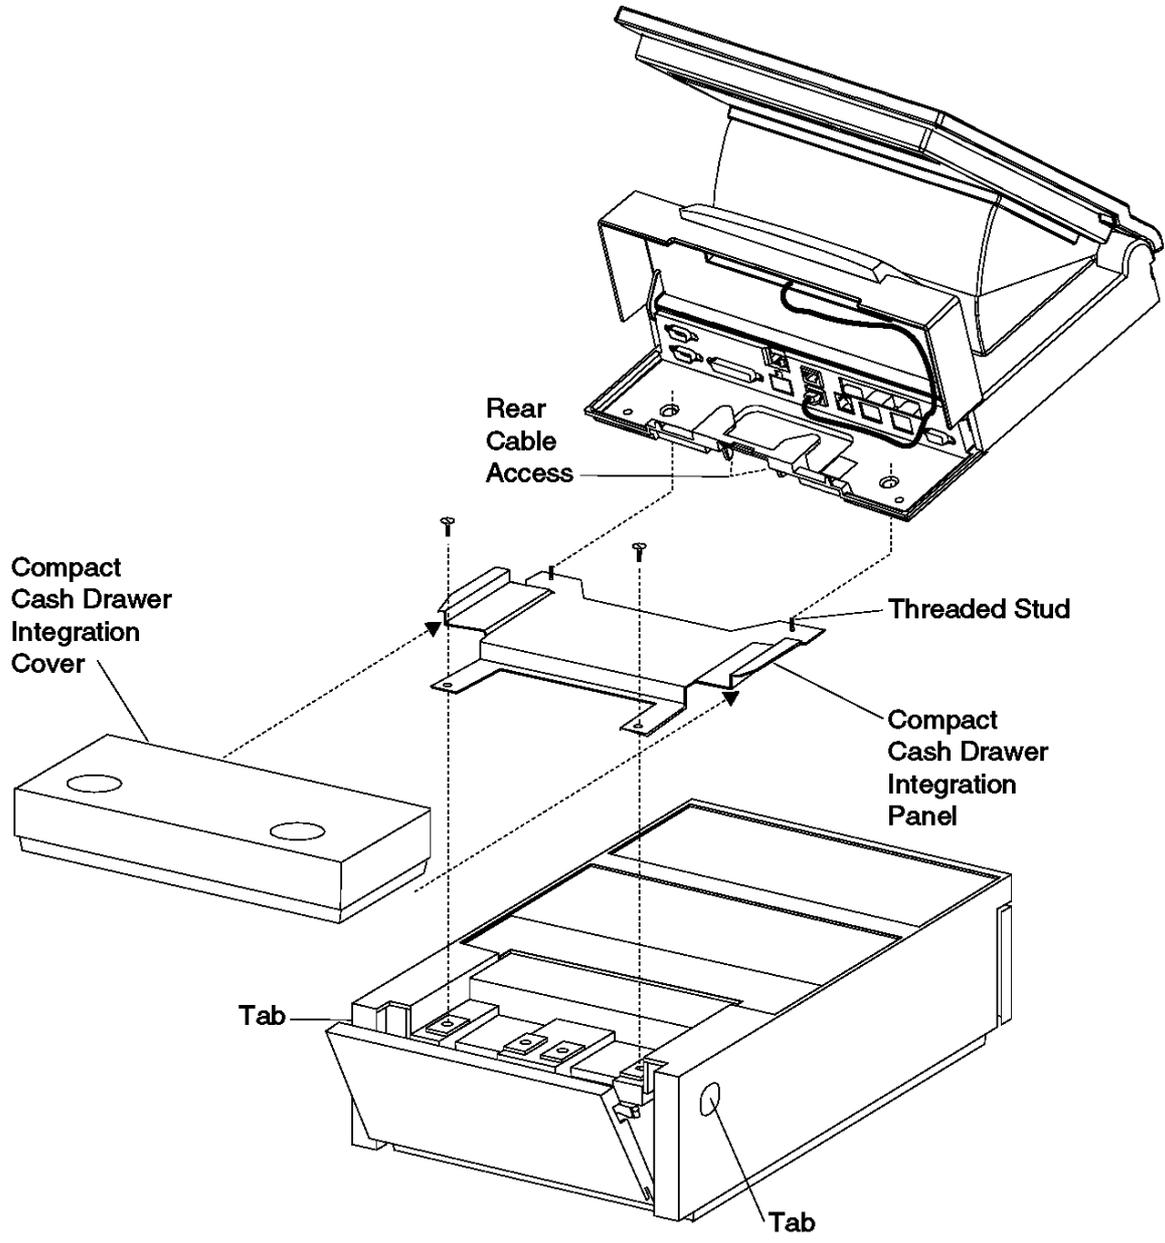

Figure 2-16. Integration Panel Installation
1. Open the rear cover on the 4695 by pressing the tabs on both sides of the 4695. See Figure 2-16.